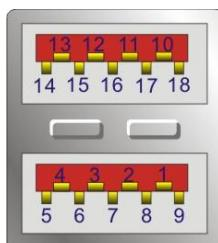

Figure 3-26: External USB 3.2 Gen 2 Connectors Location
- CN Location:** See Figure 3-26